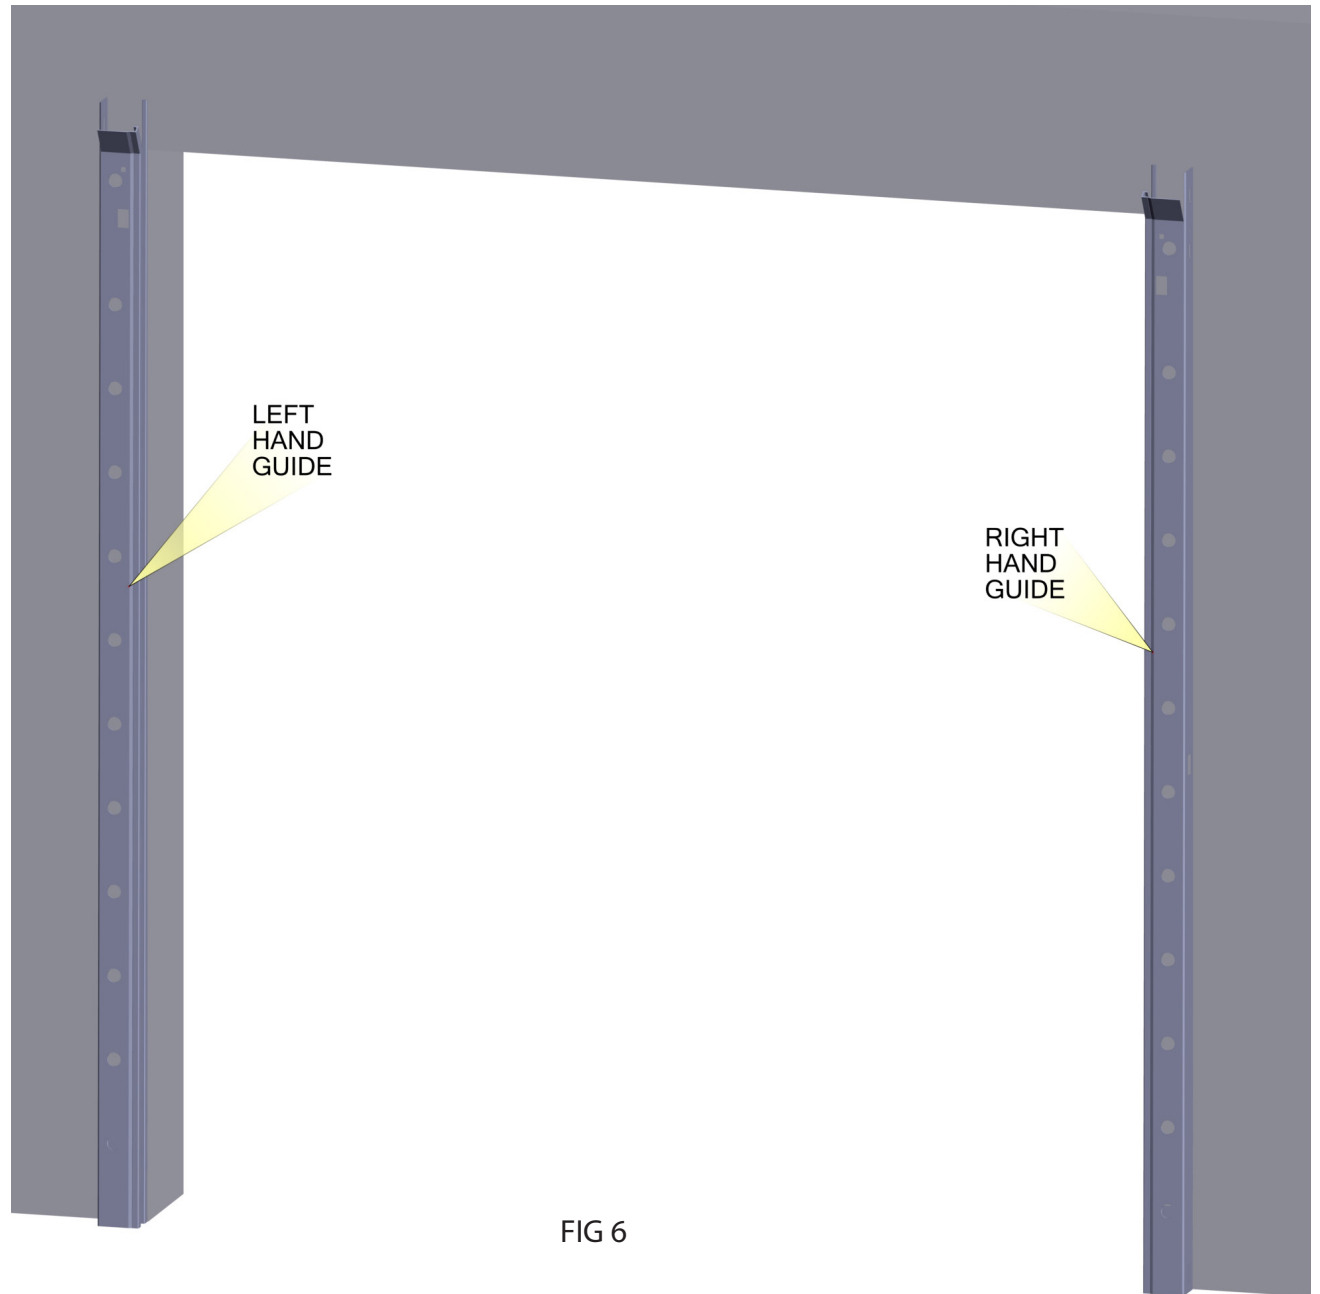

FIG 6
- Mount curtain guides to the surface using supplied fasteners. See FIG 6.
3. Door is hard to operate...	<ul style="list-style-type: none"> - Mounting brackets are not level. - Curtain assembly is not parallel to opening. - Door assembly incorrect distance from wall. - Guide leads are improperly adjusted. (Adjustment must be made with door fully closed). - Guides may be damaged. - Insufficient clearance between curtain and inside of guide. (Check Figure 6 for required clearance on both sides). - Mounting brackets too low. Check Figures 3 & 4 for proper location.